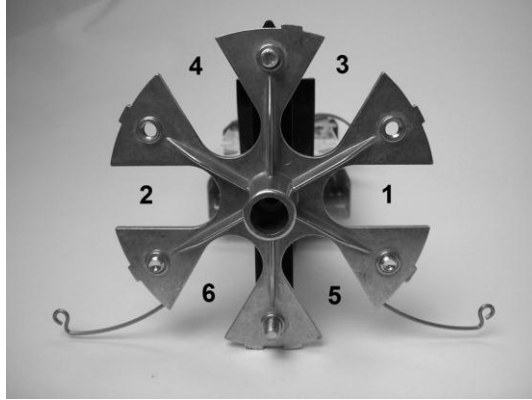

Figure 3 – Select the cable position and observe the required orientation of the cable retention hardware.
4.6 **Install Cable Retention Hardware:** Determine the position in the metal frame where the cable will be installed (Figure 3). Mid-span and/or main cables are typically installed in the lower ports. Branch or drop cables are typically installed in the upper ports of the closure. Note the orientation of the cable port. The cable retention hardware must slide into the port after it is installed on the cable. Position the cable retention hardware on the cable to allow installation in the metal frame without twisting the cable.